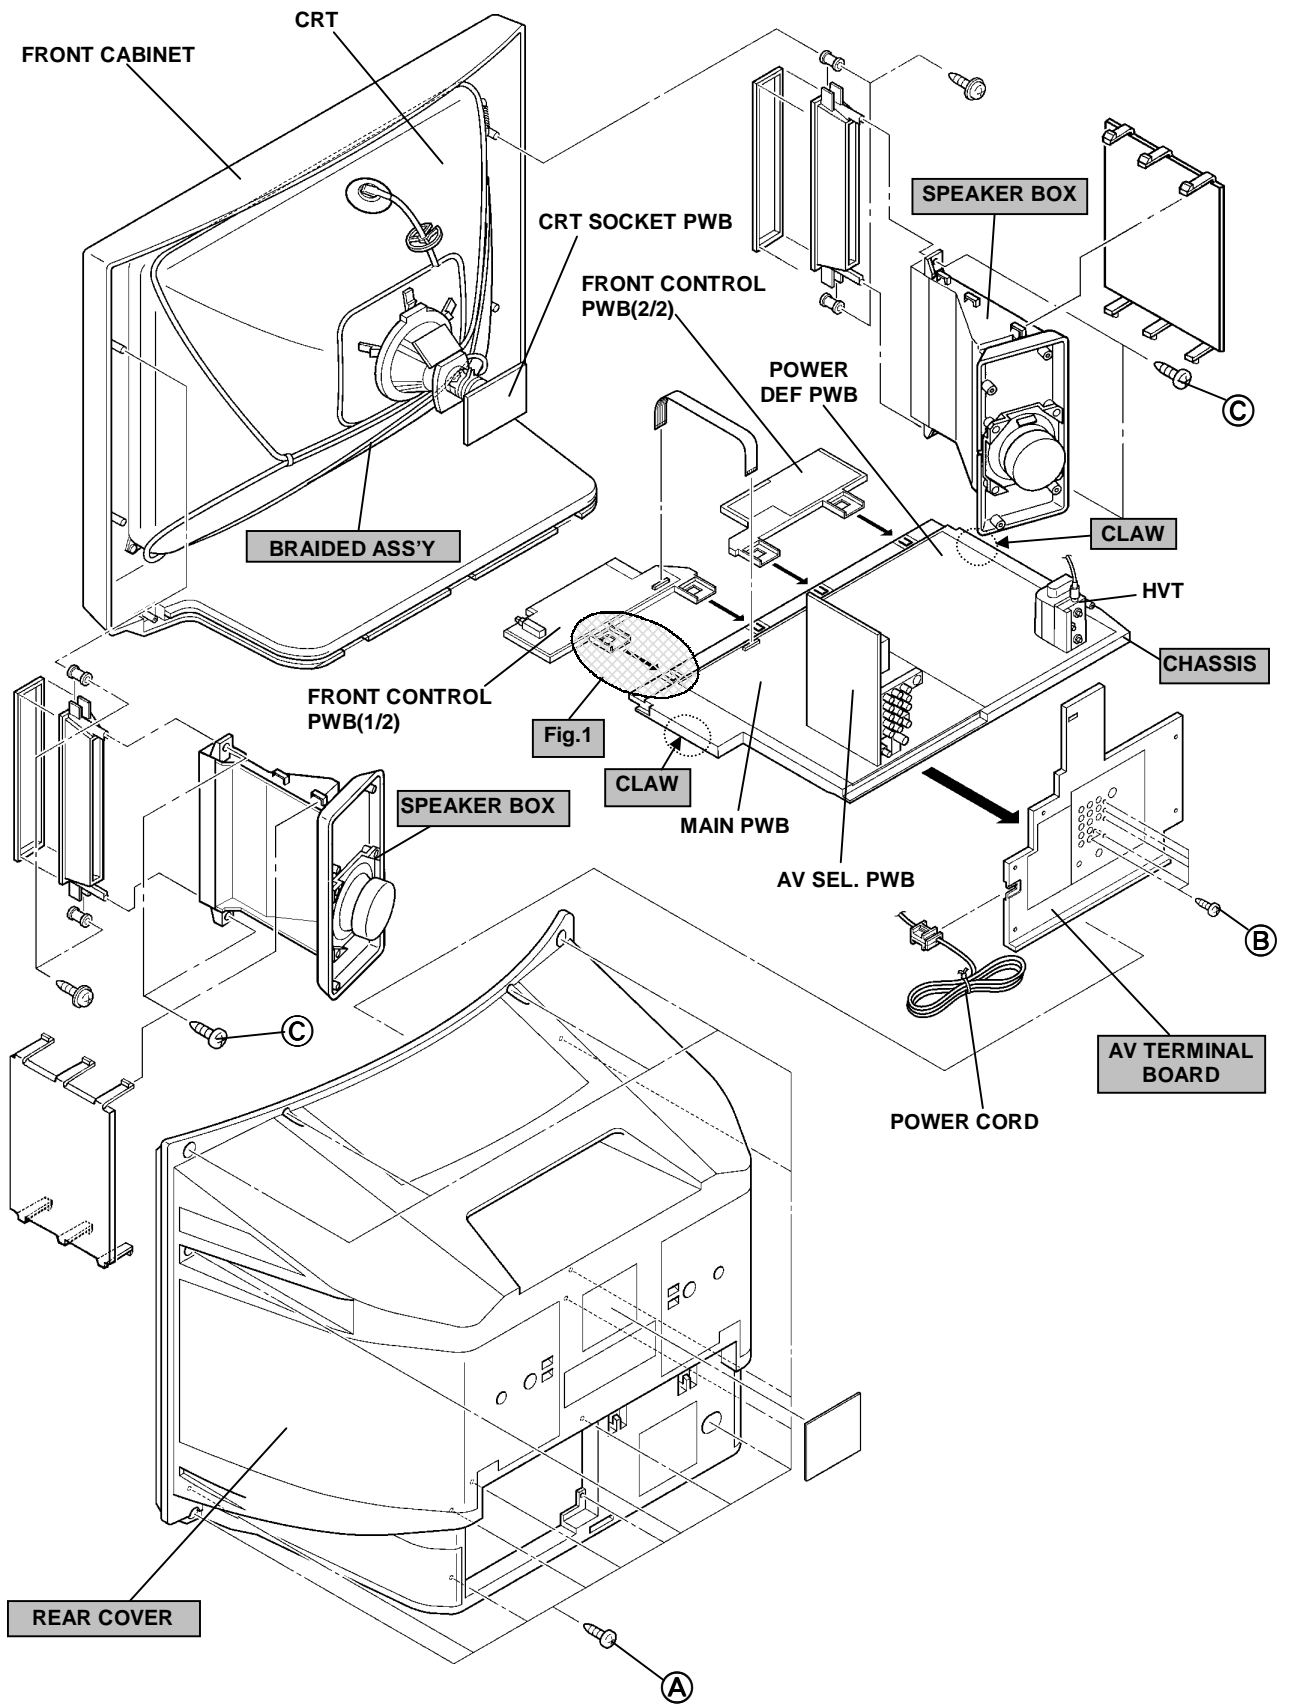

Fig.2
1. As shown in Fig. 2, removing the **2** screws marked **(C)** , then remove the speaker box backward.